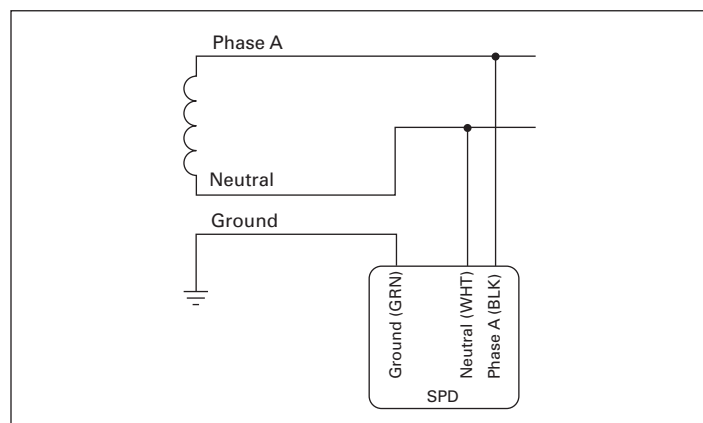
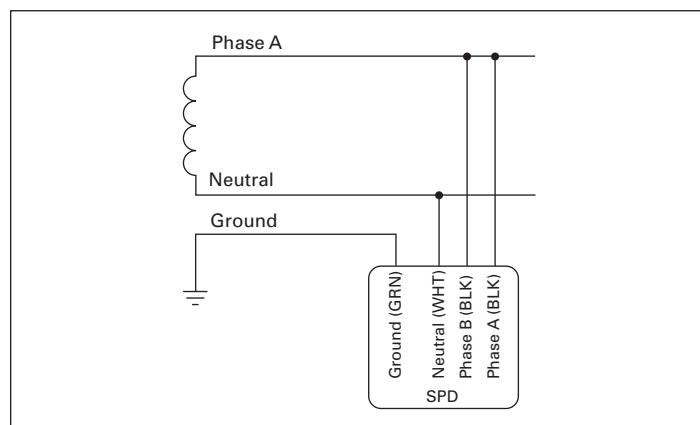

Figure 6. Single-phase (230L, 480L)
Figure 11. Single-phase 120 V (240S)
1. Locate the electrical system's applicable wiring diagram in **Figure 6** through **Figure 11**. Reference this wiring diagram as necessary in Steps 2, 3, and 4.